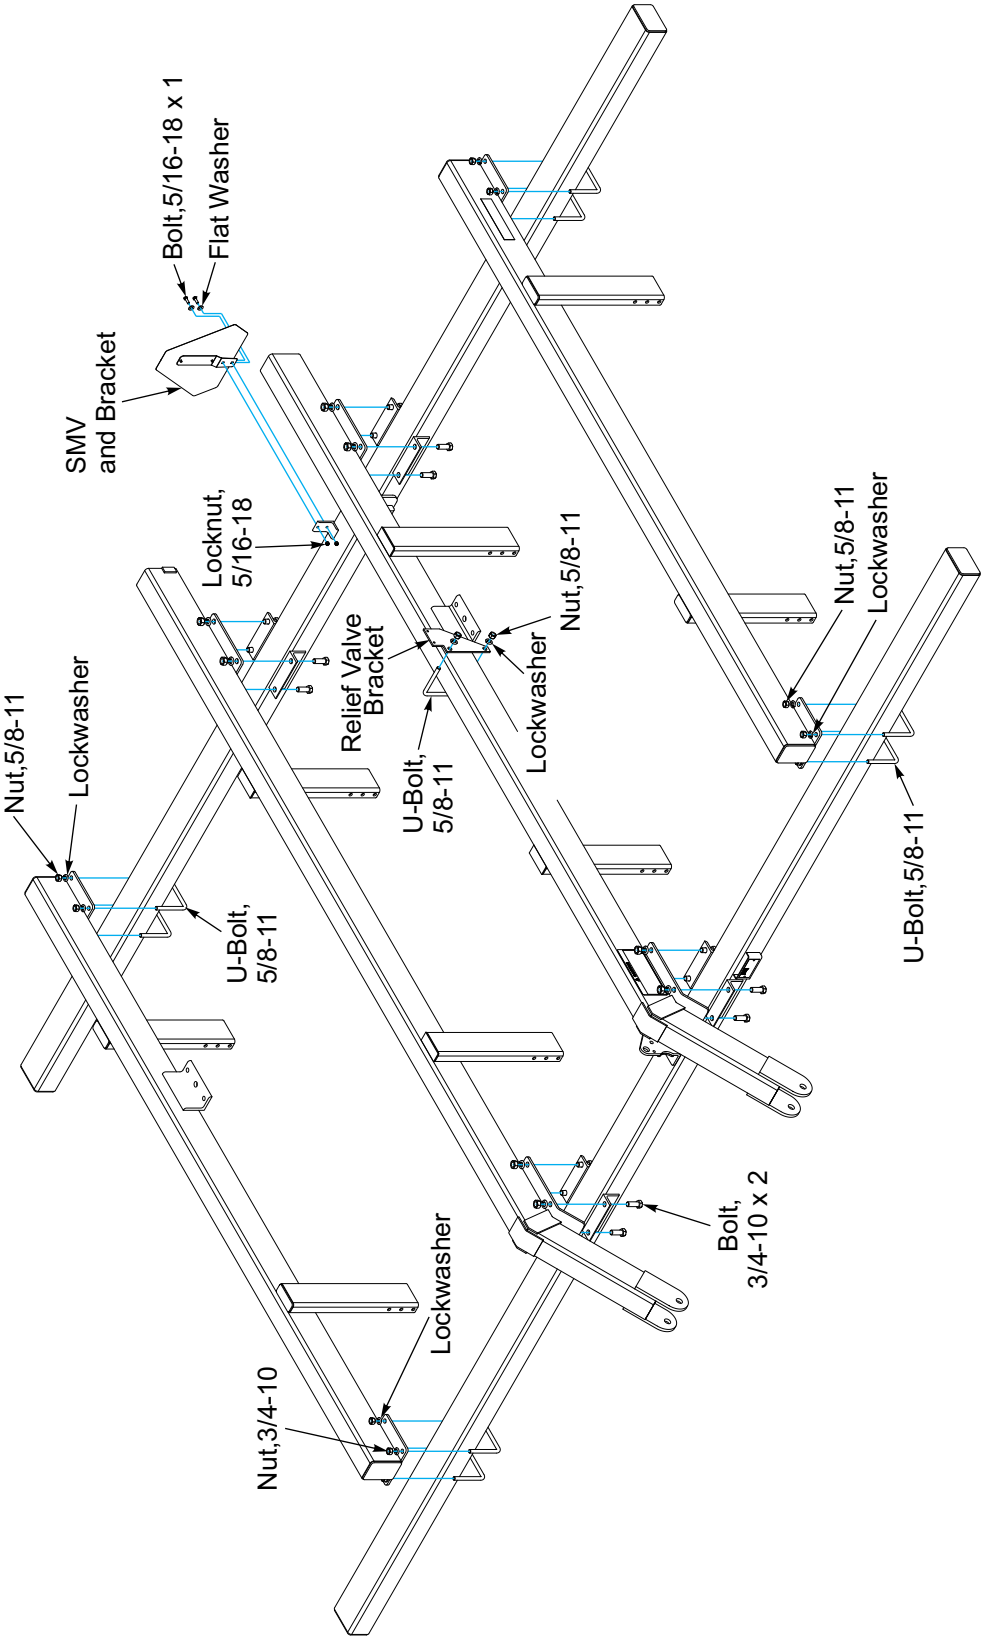

Figure 2-1: Frame Assembly
2. Position Inner Frame Tubes. Fasten Inner Frame Tubes to Front and Rear Tubes with 3/4-10 X 2 Bolts, Lockwashers and Nuts. Ensure that the Inner Frame Tubes are square with the Front and Rear Frame Tubes. **See Figures 2-1 and 2-2.**
3. Position Outer Frame Tubes. Fasten with 5/8-11 U-Bolts, Lockwashers and Nuts. **See Figures 2-1 and 2-2.**